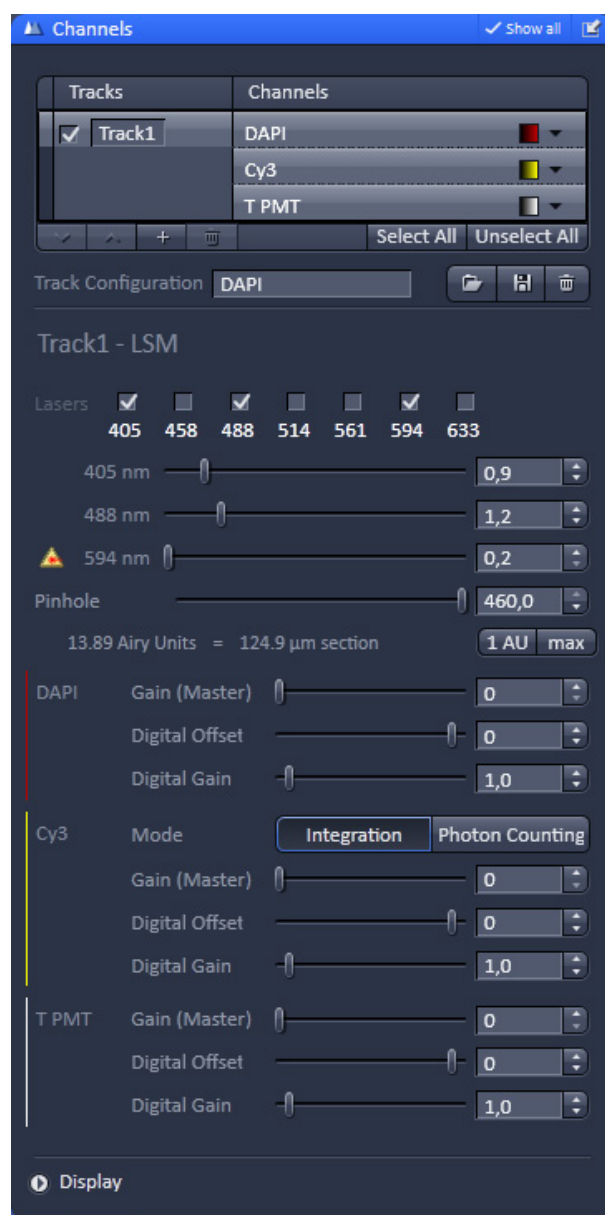

Fig. 26 Channels tool
- Set the **Pinhole** to **1** Airy Unit (Fig. 26).
- When the image is saturated, reduce AOTF transmission in the **Laser** control section of the **Channels** tool (Fig. 26) using the slider to reduce the intensity of the laser light to the specimen.
- Increase the **Digital Offset** until all blue pixels disappear, and then make it slightly positive (Fig. 26).